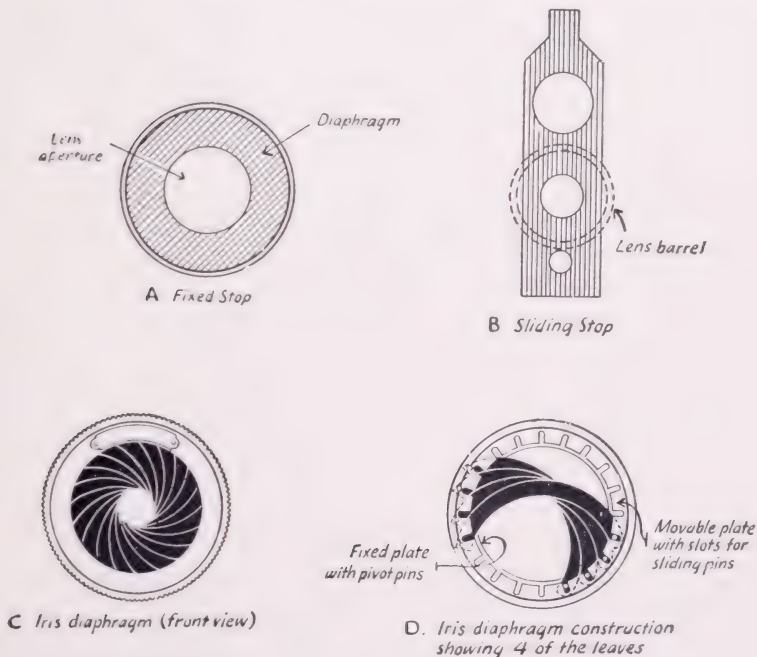

FIG. 38. THE KINDS OF DIAPHRAGMS OR STOPS
Only three different types of stops are used in modern cameras. These are: (1) the fixed stop, (2) the sliding stop and (3) the iris diaphragm. (See Fig. 38.)
*The Iris Diaphragm* is a variable stop, rather ingeniously constructed, which is used in almost all other types of cameras. It consists of a number of curved leaves cut out of thin sheet metal overlapping each other and each pivoted to the inner circumference of the barrel of the lens. These leaves all work together, and by moving the knurled rim of the lens mount they can be made to slide back to the wall of the barrel, like the leaves of a fan. In this position they are wide open and give the lens its largest stop. By moving the rim the other way, the leaves close and you can reduce the opening to any size you want. The diagram, *Fig. 38 D*, illustrates the principle upon which it works.